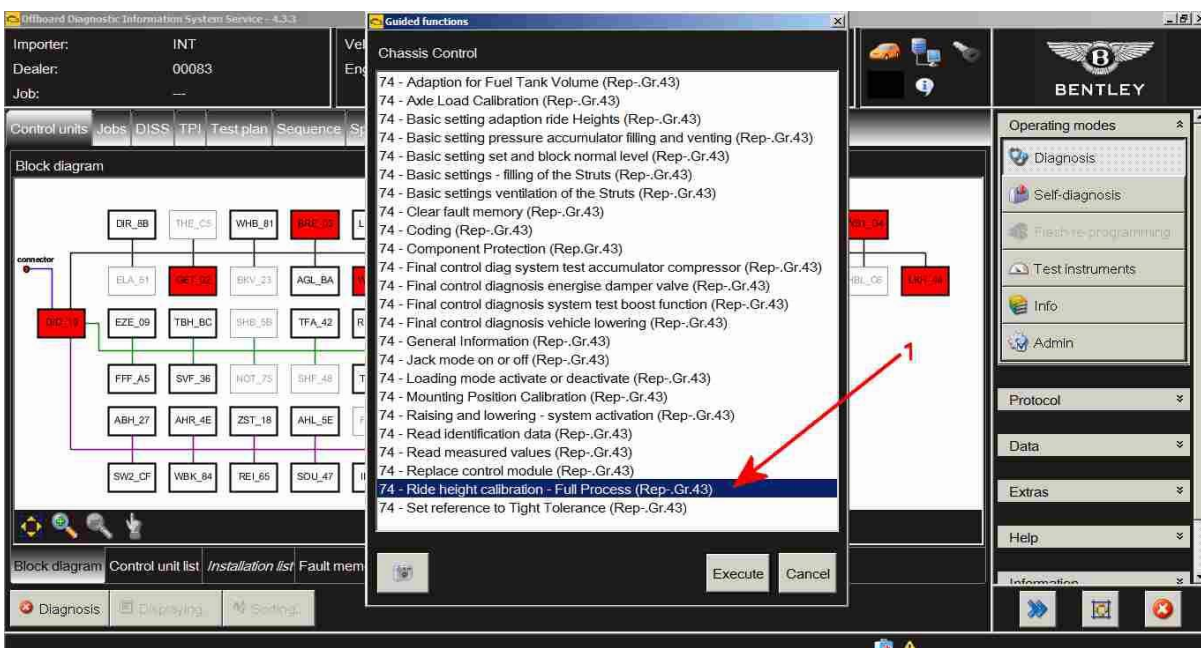

Figure 7
- Referring to Figure 7, Carry out the Ride height calibration – Full Process